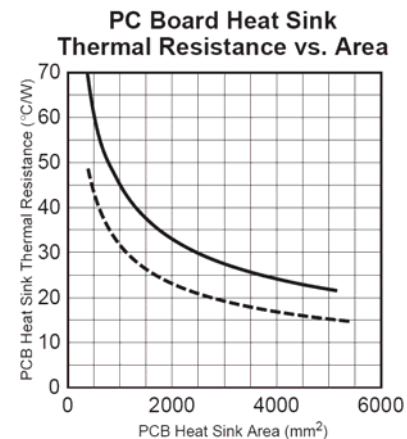

Figure 4. Excerpt from the LDO Book
- $R_{\theta_{CA}} = 53^{\circ}C/W$  Read from Graph in Figure 4